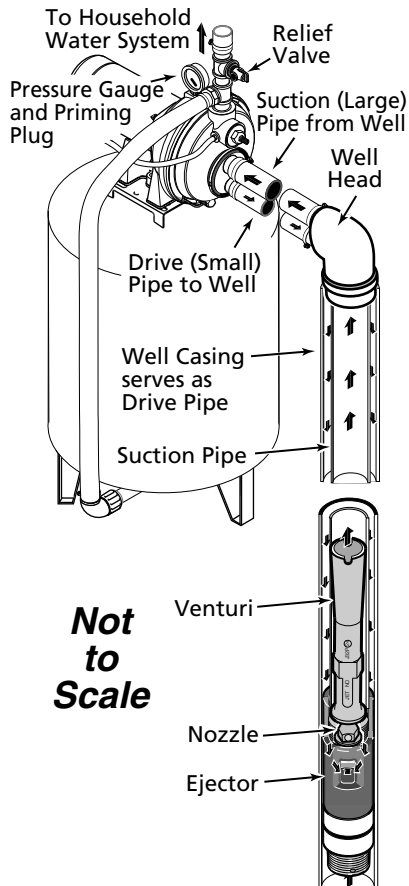

Figure 9 – 2" (Single Pipe) Deep Well
## New Deep Well 2" Well (Figure 9)
2. Assemble Berkeley ejector kit BK4840 (sold separately), well piping, and well head adapter according to the instructions provided with the ejector package (See Figure 9.) Use galvanized drop pipe with turned couplings to allow proper flow. Follow the instructions included with the kit in order to match the nozzle and venturi to your well conditions.